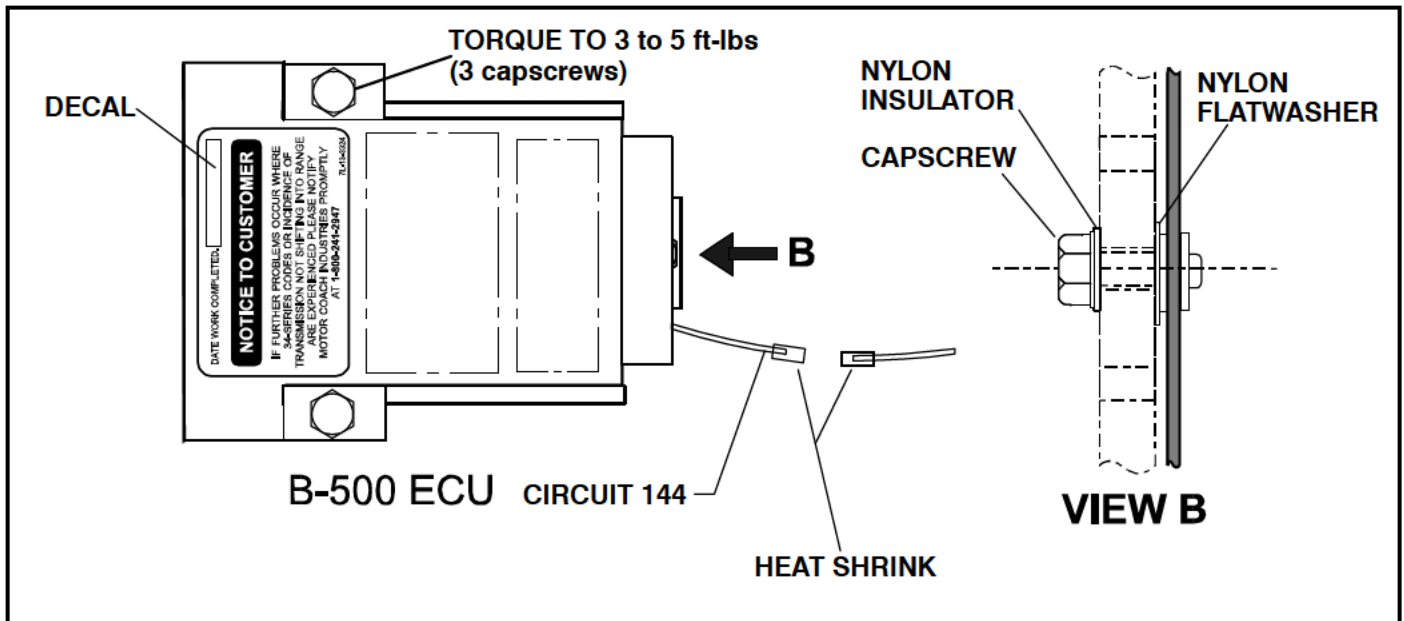

Figure 4: ECU Isolation Details
8. Reinstall the ECU, using the existing capscrews and the nylon insulators and washers supplied as shown in Figure 4. Torque the capscrews to 3 to 5 ft-lbs torque.
9. Cut Ground Wire 144 approx. 2 inches (5 cm) from the ECU connector and heat shrink both ends per Figure 4.
11. Affix the decal to the ECU as shown in Figure 4.